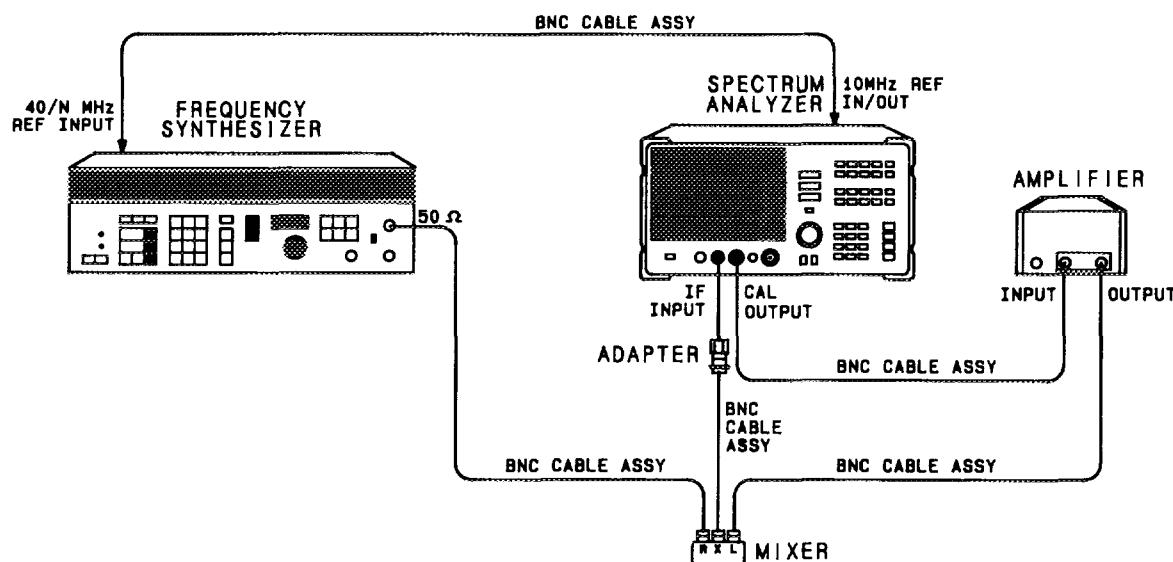

Figure 3-5. Resolution BW Accuracy/Selectivity Test Setup
1. Connect the equipment as shown in Figure 3-5. The HP 8562A/B provides the frequency reference for the HP 3335A.